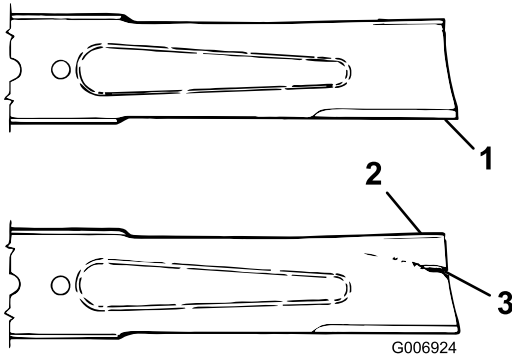

Figure 75
3. Examine the cutting ends of the blade carefully, especially where the flat and curved parts of the blade meet (Figure 75). If wear is noticed (Figure 75), replace the blade; refer to Removing the Cutter Blade (page 61).